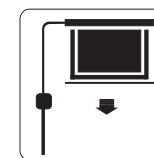

Figure 20
2. Turn the switch to position "=" to lower the screen; it will come down slowly. When it is all the way down, it will stop automatically (Figure 20) .